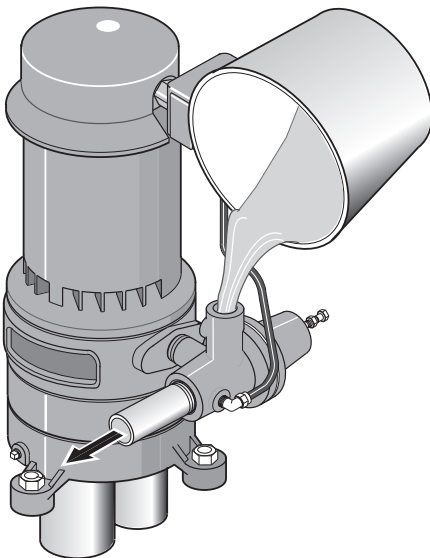

Figure 12: Fill Pump
- b. Fill pump and suction pipe with water (Figure 12).
(See Figures 12, 13, 14)